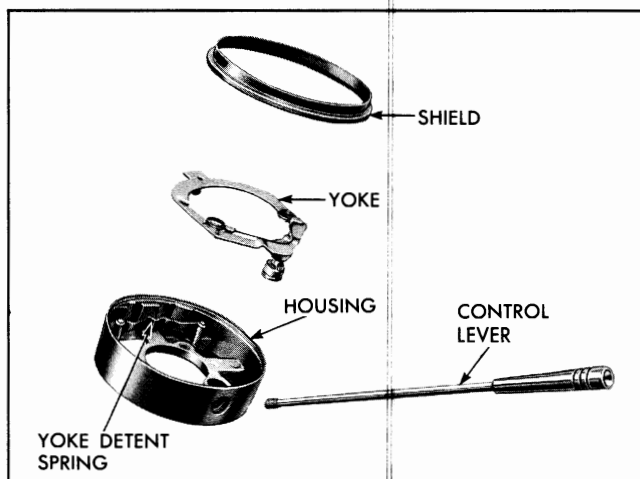

Fig. 11-70 Direction Signal Control—Exploded
8. Remove three screws which retain actuator housing and remove housing (Fig. 11-70).